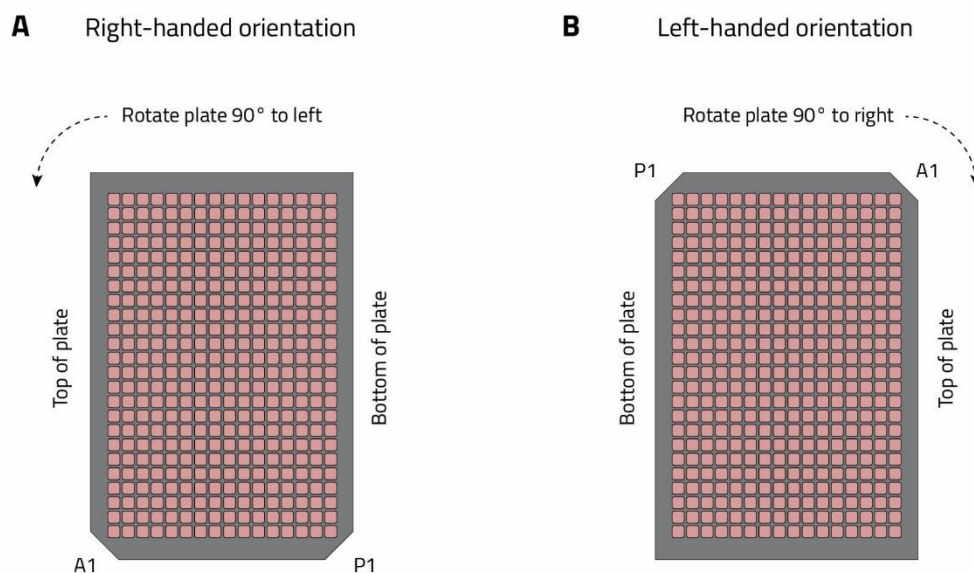

Figure 4: Recommended plate orientation for A.) Right-handed operators and B.) Left-handed operators.
1. Orient the Akura™ Twin Microplate based on operator preference (Figure 4).